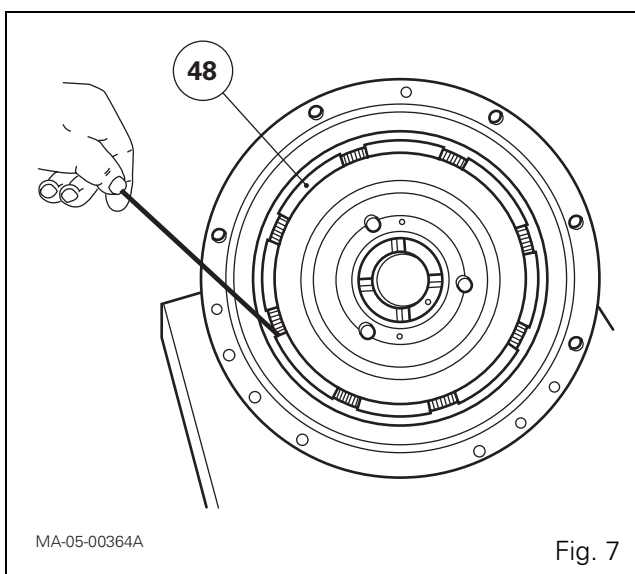

Fig. 7
11. Remove the circlip (37). Remove the tab washer (38) and washer (39).
12. Separate the shaft (36) from the ring carrier (33).
13. If necessary, remove screws (34) (41). Separate and remove the ring carrier (33) from the cover plate.
14. Remove the piston (48) (Fig. 7) by lightly tapping the cover plate with a wooden block or using a jet of compressed air.
15. Remove the seals (22) and (23) and discard them.